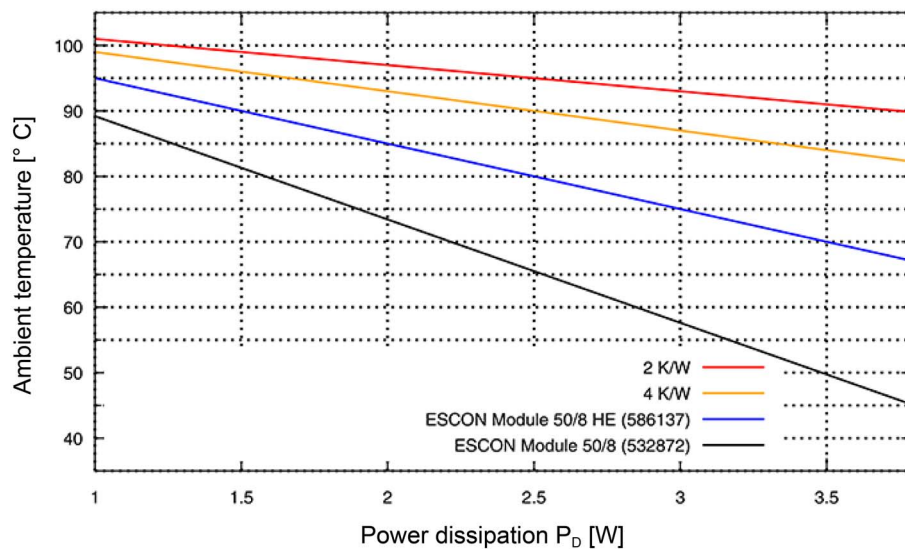

Figure 2-2 Derating Ambient Temperature / required Heat Sink
Extended range *1)	6'000...10'000 m MSL Derating: Ambient temperature (→ Figure 2-2) less 11 °C
**3) →Figure 2-2**